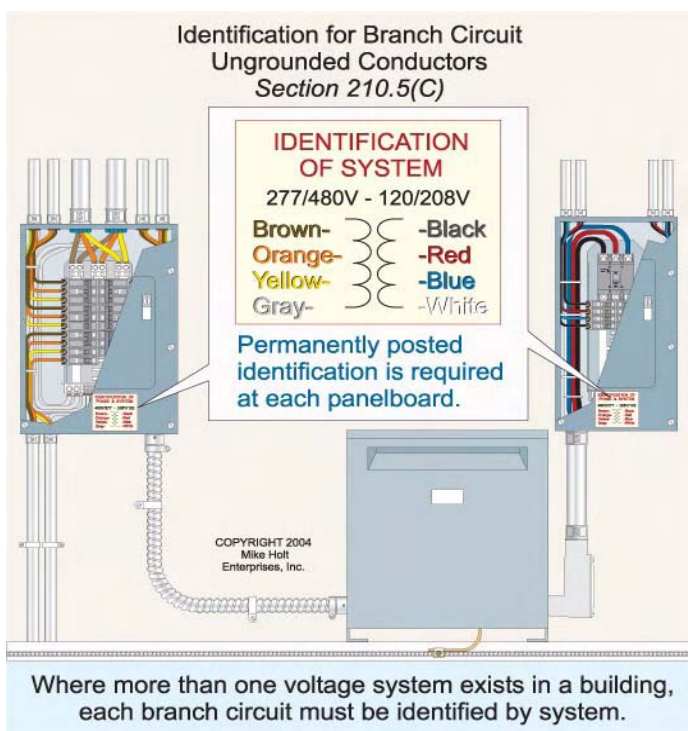

Figure 210-10
(C) Ungrounded Conductors. Where the premises wiring system contains branch circuits supplied from more than one voltage system, each ungrounded conductor, where accessible, must be identified by system. Identification can be by color-coding, marking tape, tagging, or other means approved by the authority having jurisdiction. Such identification must be permanently posted at each branch-circuit panelboard or branch-circuit distribution equipment. **Figure 210-10**